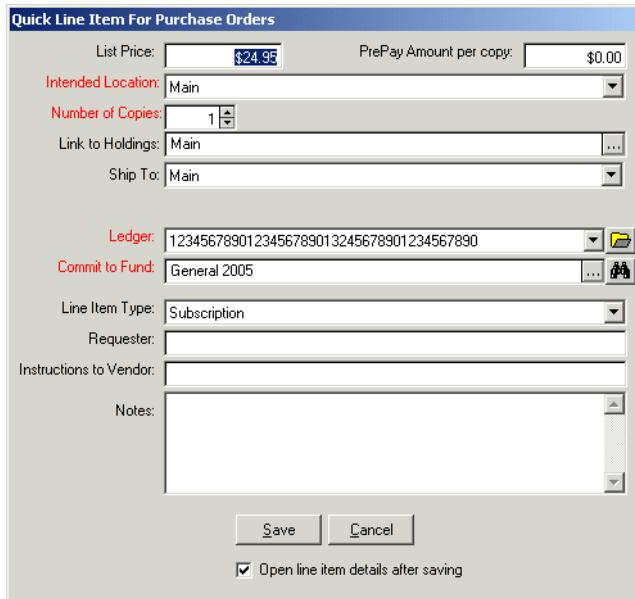

Figure 13-12. Quick Line Item dialog box - ellipsis displayed beside the Link to Holdings field
- The **ellipsis** button beside the **Link to Holdings** field on the **Quick Line Item** dialog box. The Quick Line Item feature provides a way for you to improve the efficiency of line item and purchase order creation by presenting only required and commonly-used information. The **Quick Line Item** dialog box opens (Figure 13-12) allowing you to enter basic line item information in a single spot rather than over a number of tabs. See Quick Line Item on page 6-28 for more information.